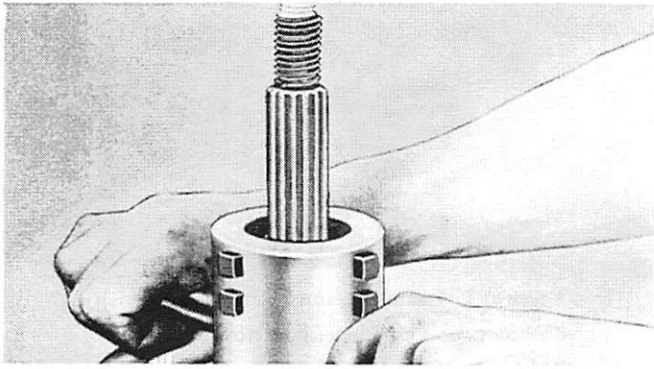

Figure 14. Installing (Removing) Gear Lock Nut
2. Thread gear lock nut into position (left hand thread) with Propeller Gear Lock Nut Tool (91-29925A1). (Figure 14)